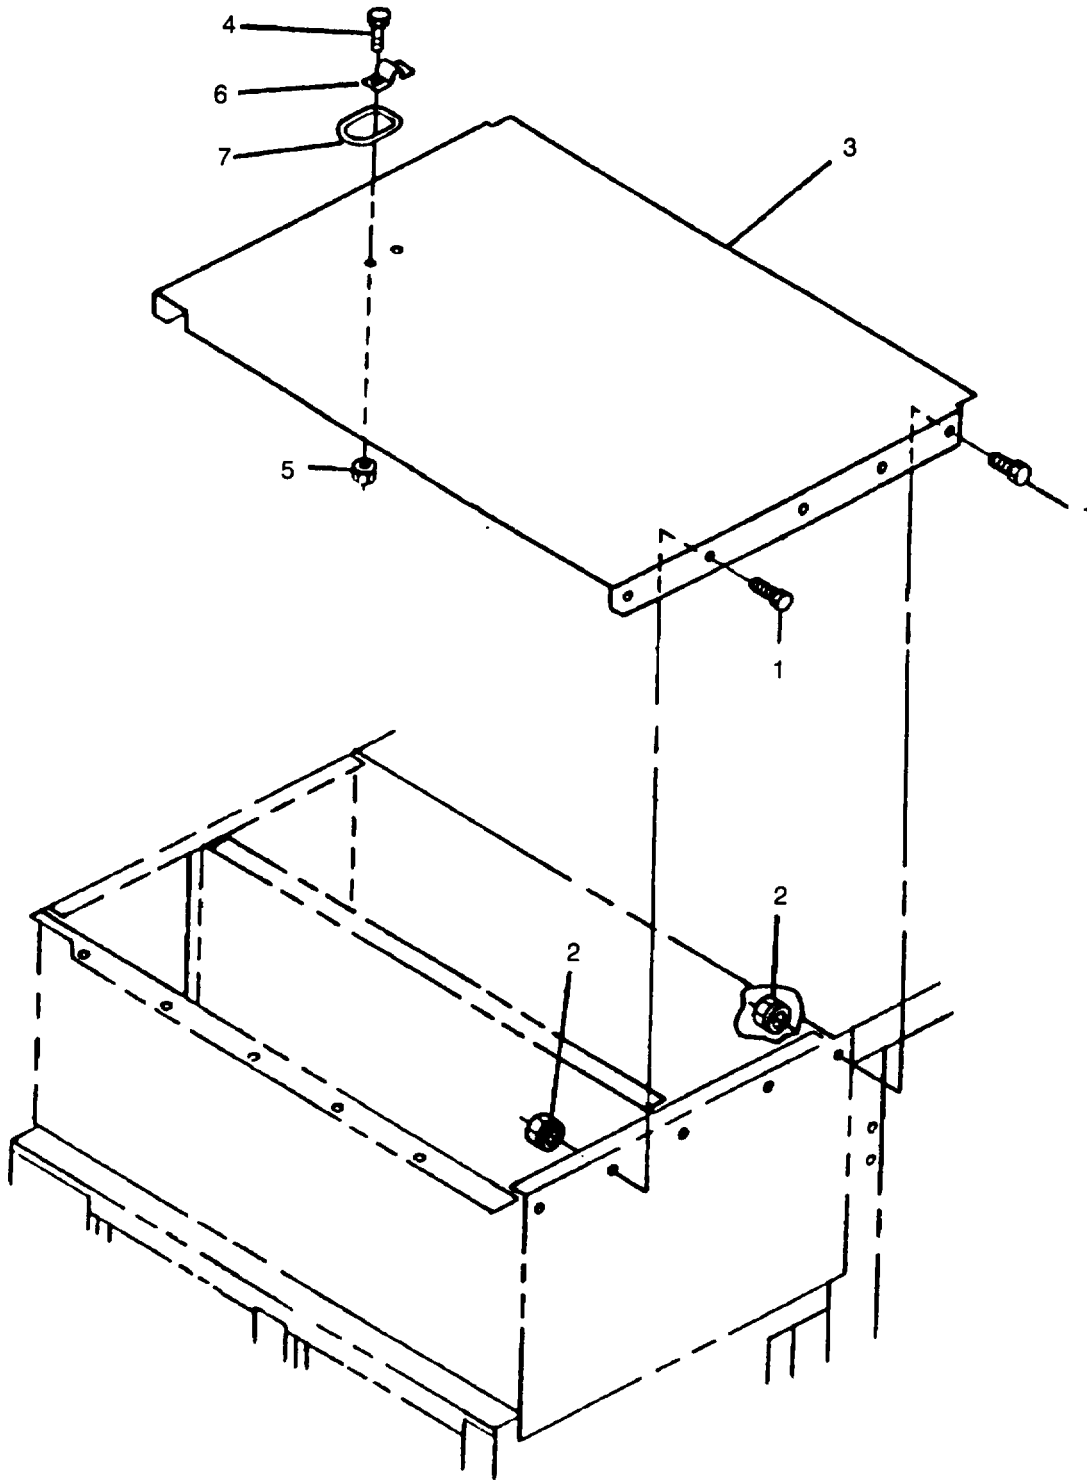

Figure 2-7. Control Box Top Panel
- d. Remove bolts (1, Figure 2-7), nuts (2), and top panel (3).
- e. Remove old sealant from control box top panel (3) and control box assembly surfaces.
- f. Remove bolts (4), nuts (5), bracket (6), and ring (7) from top panel (3).
- a. Install ring (7, Figure 2-7) and bracket (6) on control box top panel (3) with bolts (4) and nuts (5)
- c. Immediately install top panel (3) with bolts (1) and nuts (2).